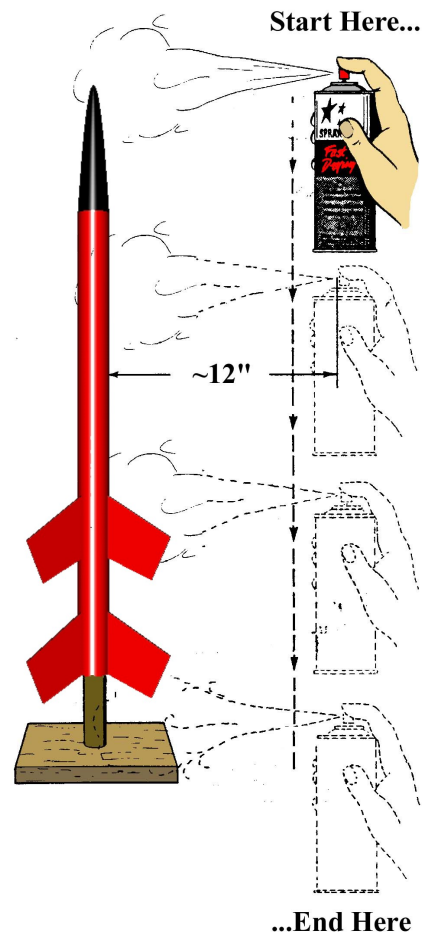

Figure 10
- Step 33** Spray the model with at least two coats of primer and allow to dry completely before sanding with 320-grit paper. Follow the general pattern shown in Fig. 10 above. Always spray the model from the top-down to reduce the possibility of runs and drips. Maintain a distance of about 12" between the spray head and the model. Start the spray off the model, carry the spray through the contact zone, and only stop the spray after leaving the model. This will reduce the chances of splatter. When dry, sand the rough spots down, tack-rag the model, and inspect for blemishes. Repeat this sequence one spray layer at a time, as needed, until all visible blemishes have been removed. Caring for these issues at this stage of the process makes the color coat go on with fewer problems that will ruin the finish.
- Step 34** Apply the color coats in a similar manner to the illustration in Fig. 10. The nose cone should be black, while the sustainer and booster should be a deep red. Be sure to spray the booster and sustainer a bright white undercoat first, if your primer color was not already bright white. Depending on the decal sheet you use, you will need to mask off some areas on the sustainer and booster to protect small patches of white that will show through the decals. There is some debate as to what the original red was on the Der Red Max, but we suggest you match the closest red you can find to a catalog image of that model and don't worry about it being exact. Allow each color coat to dry a minimum of 48 hours before masking off and spraying the second color.